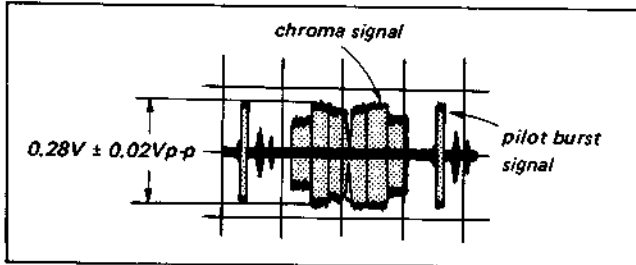

Fig. 4-34. Chroma record current adjustment
- (3) Adjust RV16 for a chroma signal level of  $0.28V \pm 0.02$  Vp-p. (see Fig. 4-34).
- (4) Check that the level of the pilot burst signal is  $0.28V \pm 0.02$  Vp-p. If not, adjust RV11. (see Fig. 4-34).